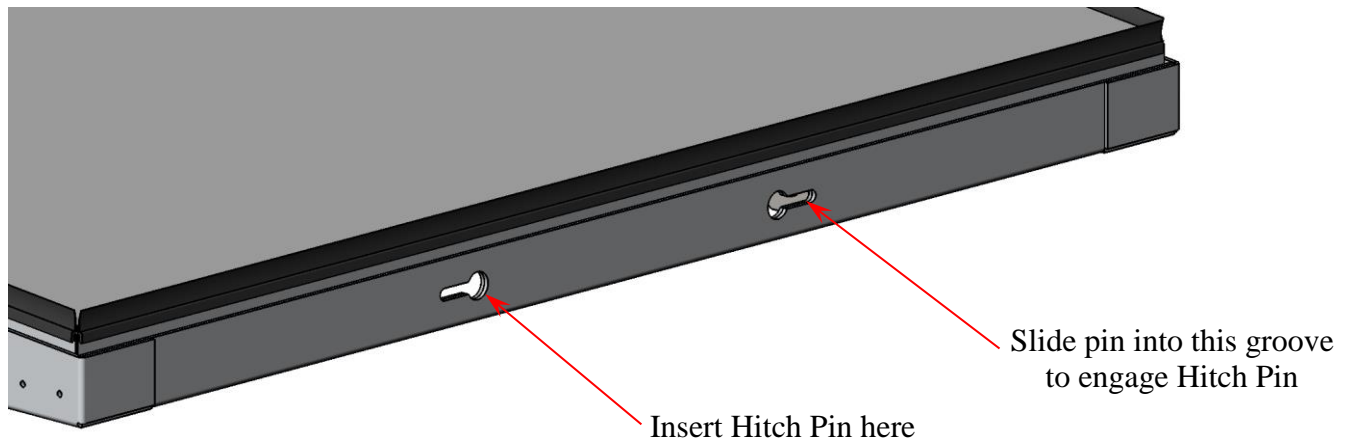

Figure 7
1. To attach the Center Section Hitch, locate (2) hitch pins. Remove locking pin(s) and flat washer(s) from pin. Insert the short side of pin into circular opening located on the front face of the Center Section (*figure 7*). Once inserted into the opening, slide the pin into the groove to engage the pin to the Center Section. Repeat procedure with remaining pin.